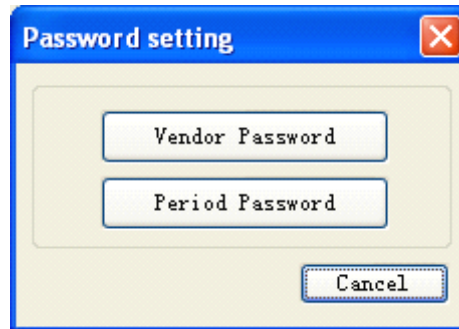
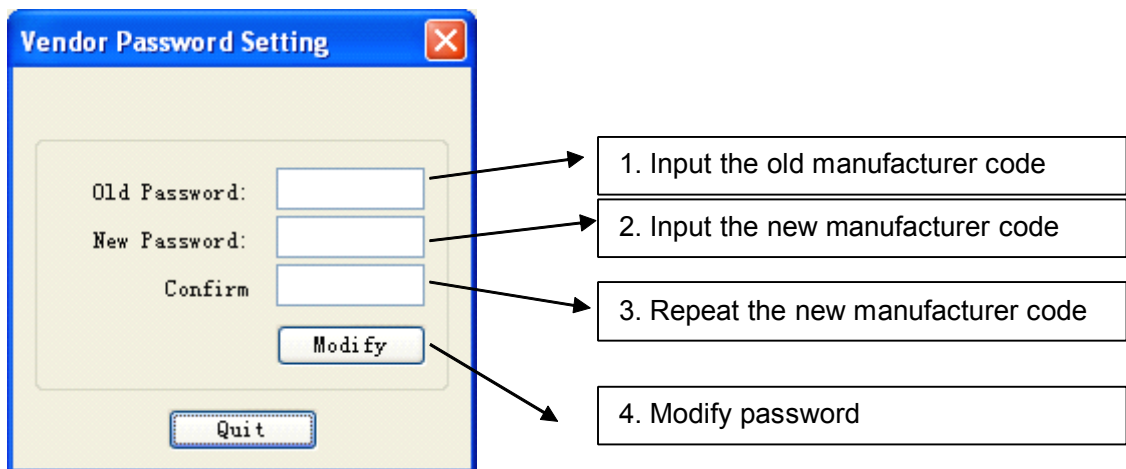
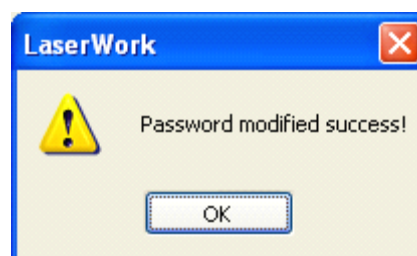
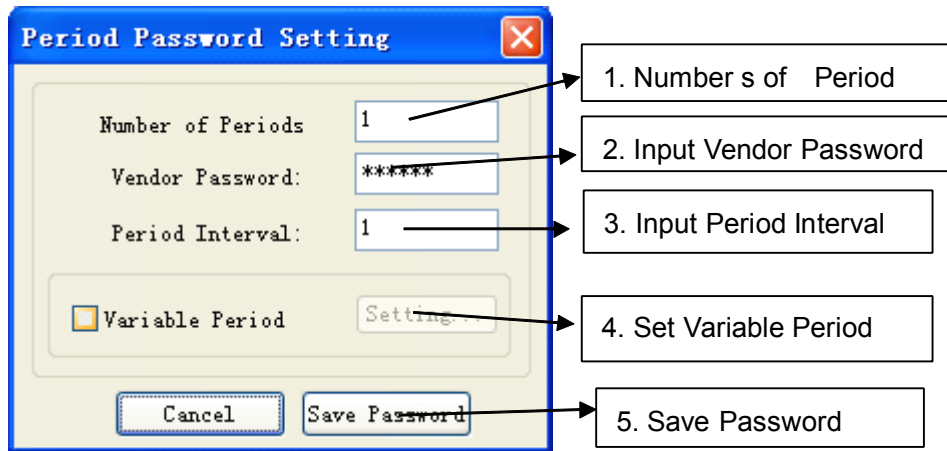

Figure 1-12
Figure1-13
Figure 1-14
Figure 1-15
(2) Click on the *Ok button*, the dialog box *Code setup* as shown in figure 1-12 will pop up:
Click on the *Manufacture code* button shown in figure 1-12, the dialog box *Setup Manufacturer Code* as shown in figure 1-13 will pop up:
After inputting the *old code*, the *new code*, *confirmed code*, click on the *Modify* button as shown in figure 1-13. When the modification is successful, a menu as shown in figure 1-14 will pop up to show that the manufacture code has been modified.
Click on the *Time Limit Code* button in figure 1-12, a dialog box *Setup Time Limit Code* as shown in figure 1-15 will pop up: